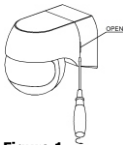

Figure 1
- Loosen the screw in the back and remove the bottom (Figure 1)